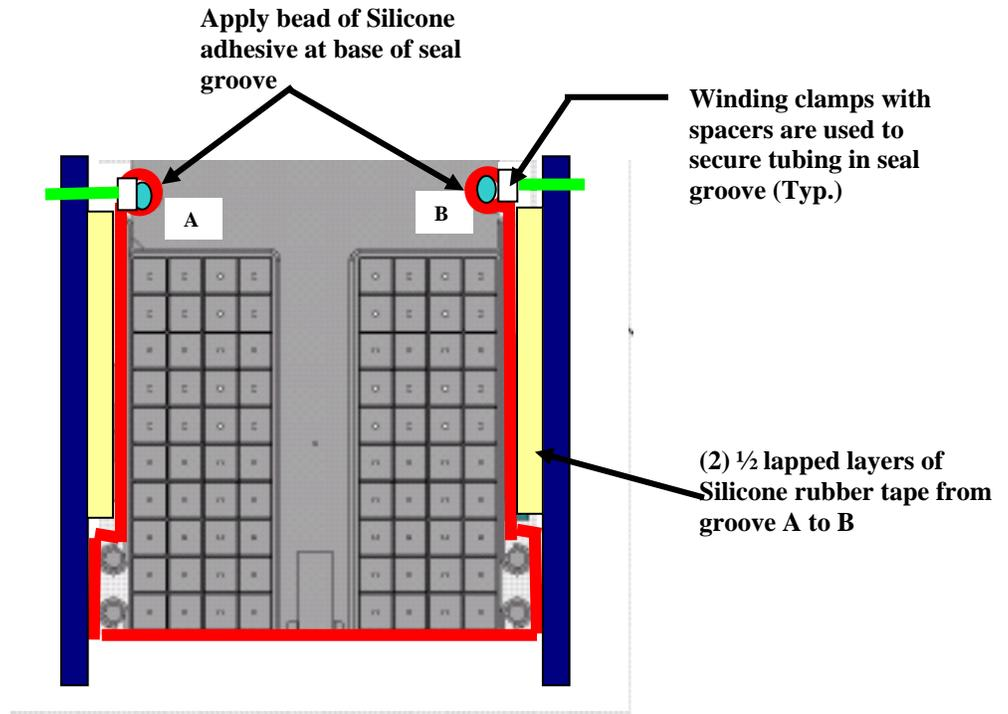
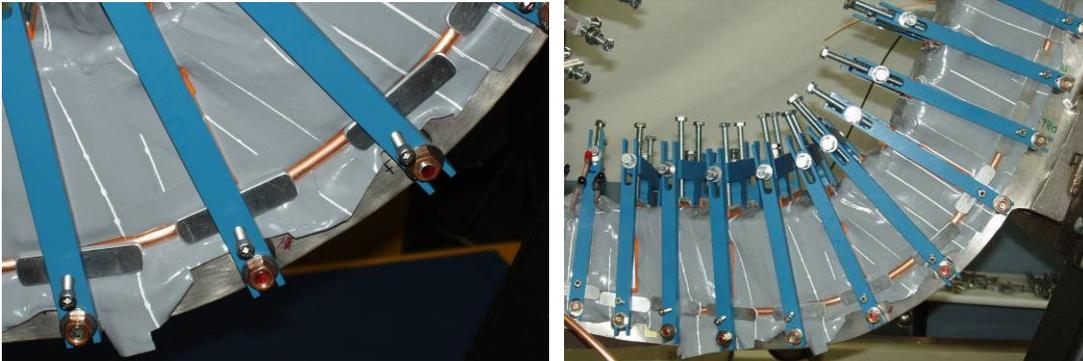

Figure 52- Installation of Bag Mold
Figure 53- Silicone Bag Mold
- 6.49.8 Apply (2) half-lapped layers of the silicone rubber tape over the modular coil bundle chill plate and cooling tube assembly. The silicone tape extends from the Side “A” seal groove across the top to the Side “B” seal groove. Apply bead of adhesive RTV caulking in the seal groove prior to positioning the silicone tape. (Figure 52- Installation of Bag Mold & Figure 53- Silicone Bag Mold)
- 6.49.9 Hold the silicone rubber bag mold in the groove using 5/16" (or 3/8 inch) refrigeration tubing. Use the special VPI winding clamps with spacers to hold the tube in place. (Figure 52- Installation of Bag Mold & Figure 53- Silicone Bag Mold)